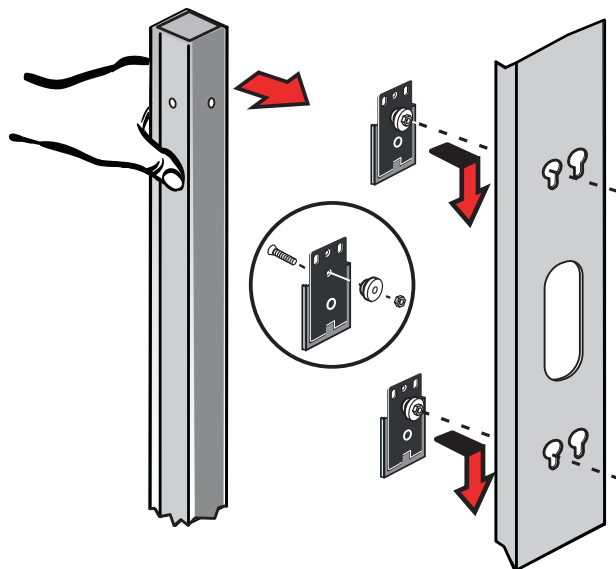

Figure 21. Attaching the Mounting Buttons to the Mounting Clip Feet
1. Locate the two mounting clip feet, M6 flathead screws, two spare plastic mounting buttons, and mounting hardware (M4 screws and M4 hex nuts, or M3 screws). Using a Phillips screwdriver, assemble the mounting buttons and clip feet (see Figure 21).